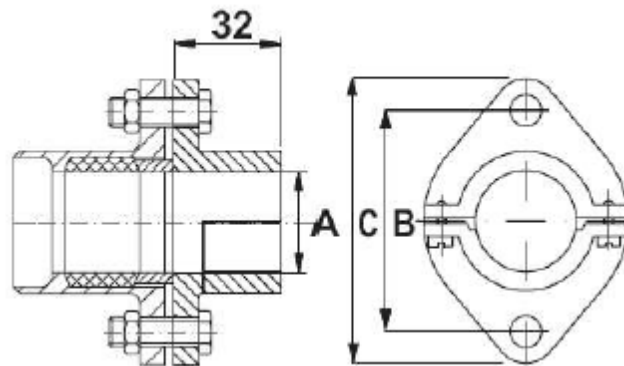

Figure 5. Movable flange DIN 43734
The installation length of the thermoelement (L) is adjusted by moving the flange or movable connection along the neck tube. The movable flange is made in the dimensions of DIN 43734, Figure 5, and the movable connection is made according to the user's request.